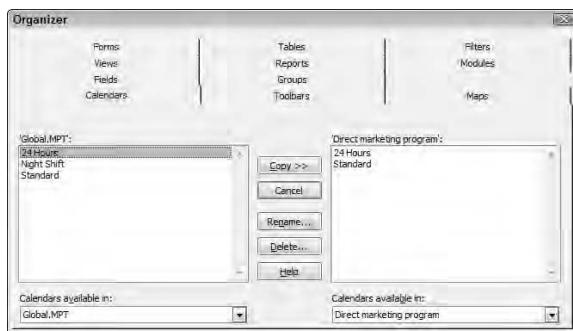

Figure 4-12:
3. **Click the Calendars tab, as shown in Figure 4-12.**